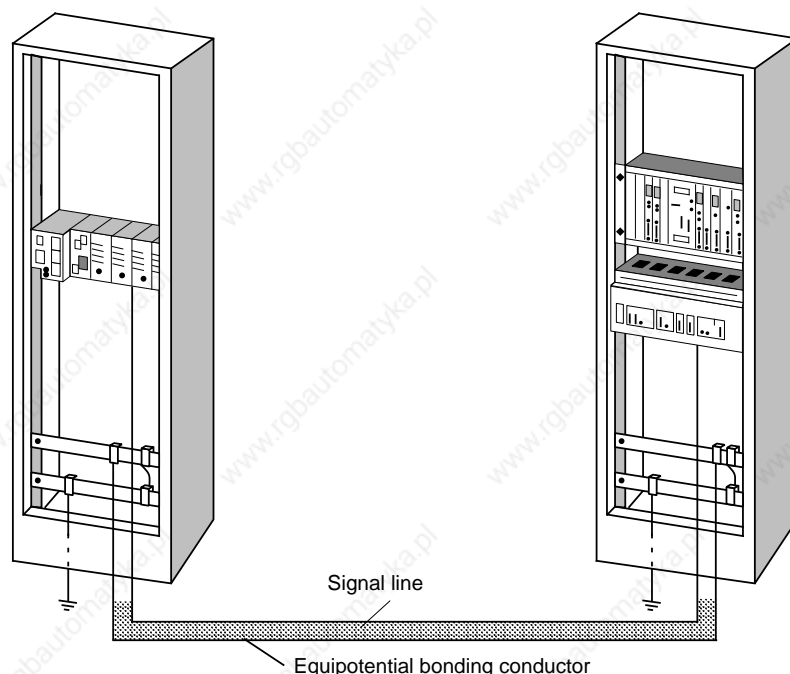

Figure 3-25. Laying Equipotential Bonding Conductor and Signal Cable
- The equipotential bonding conductor should be laid in such a way as to achieve a relatively small contact area between equipotential bonding conductor and signal cables (see Figure 3-25).